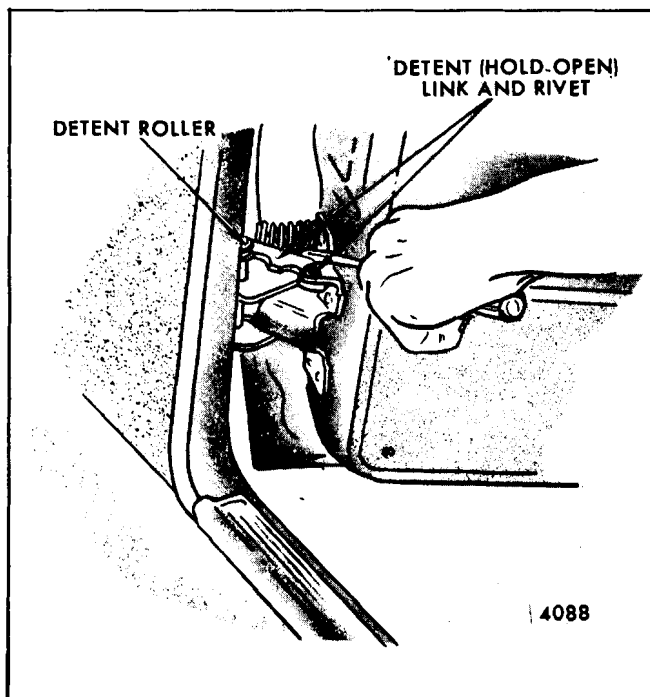

Fig. 6-50-Front Door Hinge "Hold-Open Spring" Removal
2. Disengage door hold-open spring from lower hinge assembly by prying upward against spring with a suitable prying tool (Fig. 6-50). Use care not to damage hold-open link.